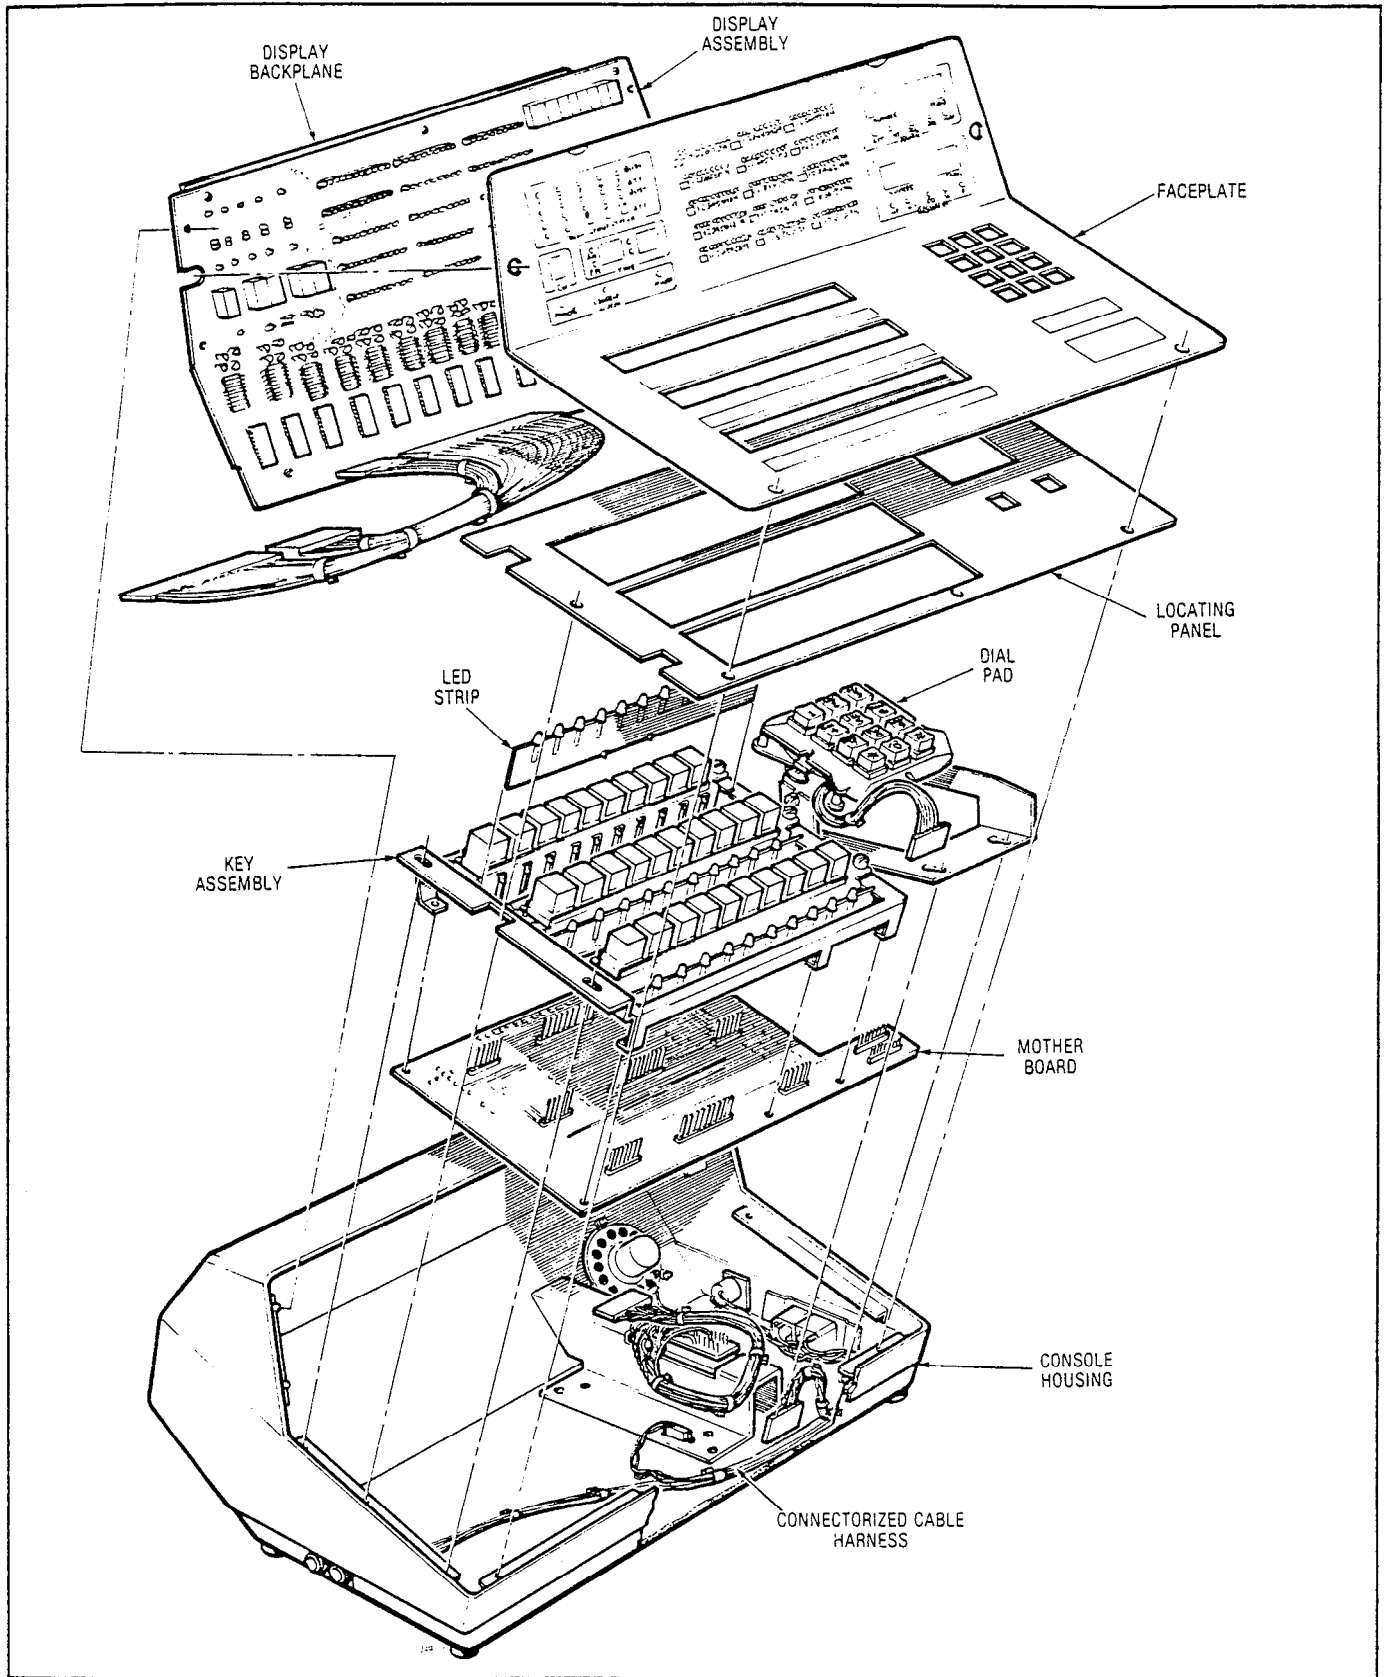

Fig. 3-1 Console Major Components
3.01 The major components of the attendant console are interconnected by a connectorized cable harness allowing easy replacement of a defective item. The following paragraphs describe each of the major components shown in Fig. 3-1.